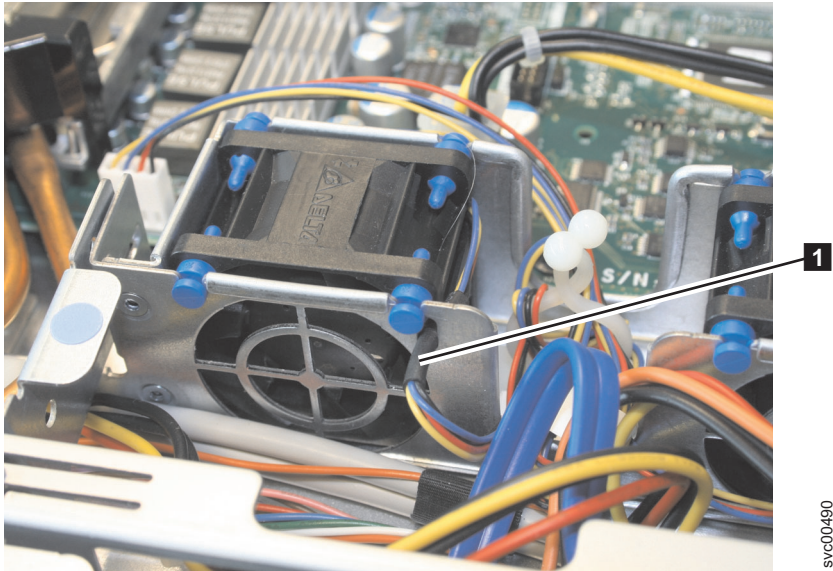

Figure 246. Routing the SAN Volume Controller 2145-8A4 fan cable
- a. Make sure that the fan cable sits in the channel **1**, as shown in Figure 246 on page 261, on the side of the fan.